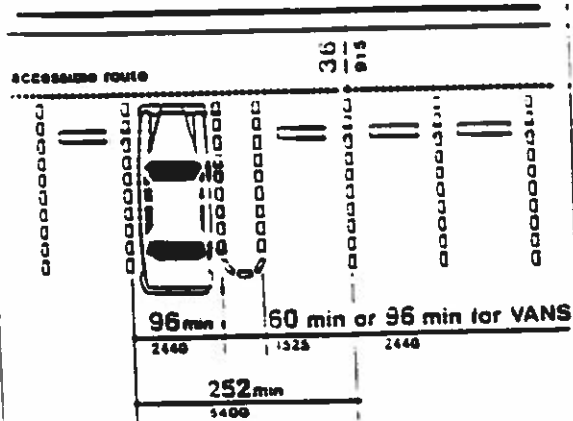

Fig. 9
**4.6.3\* Parking Spaces.** Accessible parking spaces shall be at least 96 in (2440 mm) wide. Parking access aisles shall be part of an accessible route to the building or facility entrance and shall comply with 4.3. Two accessible parking spaces may share a common access aisle (see Fig. 9). Parked vehicle overhangs shall not reduce the clear width of an accessible route. Parking spaces and access aisles shall be level with surface slopes not exceeding 1:50 (2%) in all directions.